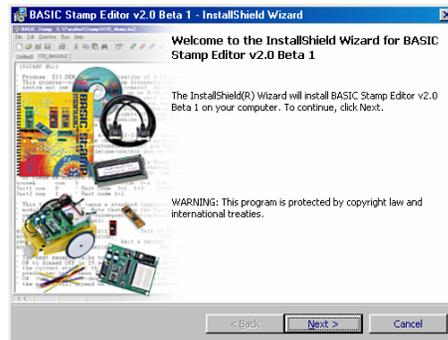

Figure 1-18
- ✓ When the BASIC Stamp Editor’s InstallShield Wizard window opens, click the *Next* button shown in Figure 1-18.